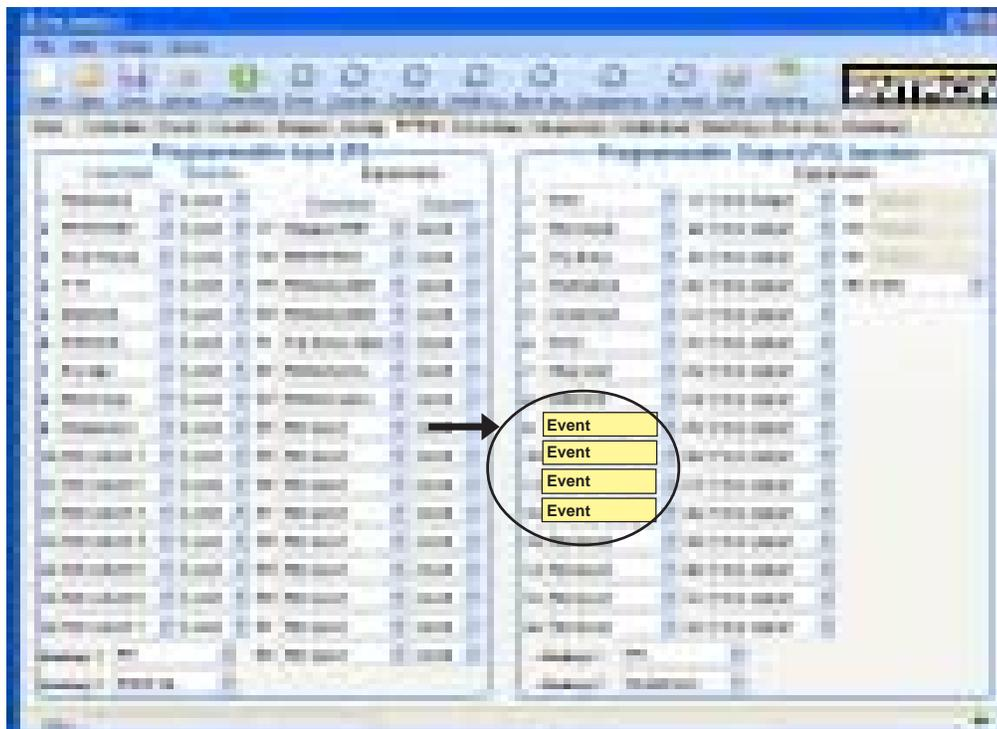

Figure 9-41. Input/Output Map page
- C. Map OUTPUTS PO9 through PO12 to Event on Input/Output Map page (Figure 9-41).